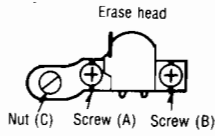

Fig. 2
<p>Adjustment</p> <ol style="list-style-type: none"> 1. Adjust nut (C) shown in fig. 2 so that the tape may not get curled or malformed by tape guide of the erase head.